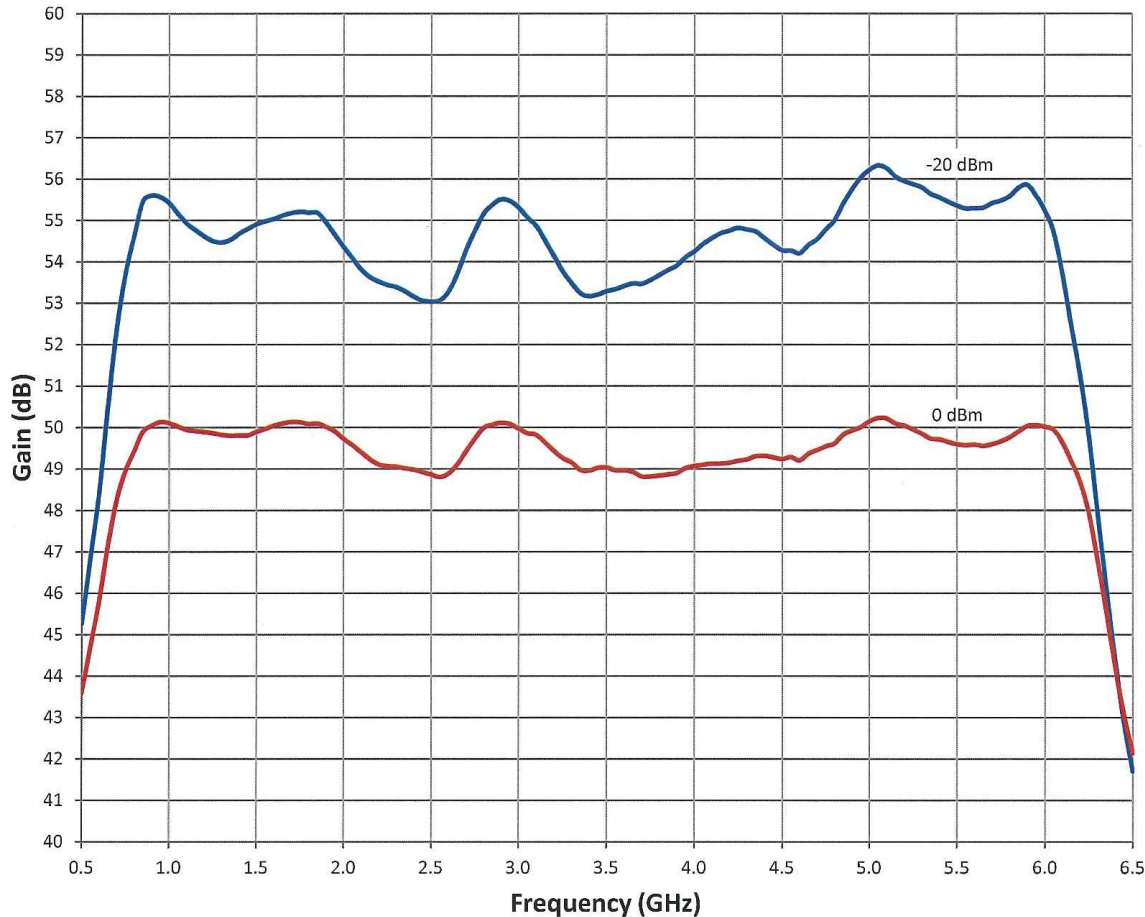

Figure 4-1. Typical Response at 0 dBm Input and -20dBm Input
1. The Model 100S1G6AB's typical gain response at 0 dBm input and -20 dBm input is shown in Figure 4-1. The actual gain may vary considerably from that shown in Figure 4-1 but should be ≥ 47 at 0dBm input and $\geq 0V$ at -20 dBm input. *NOTE: If the overall gain is low, the amplifier chain can be separated at the input of the A3 Splitter.*